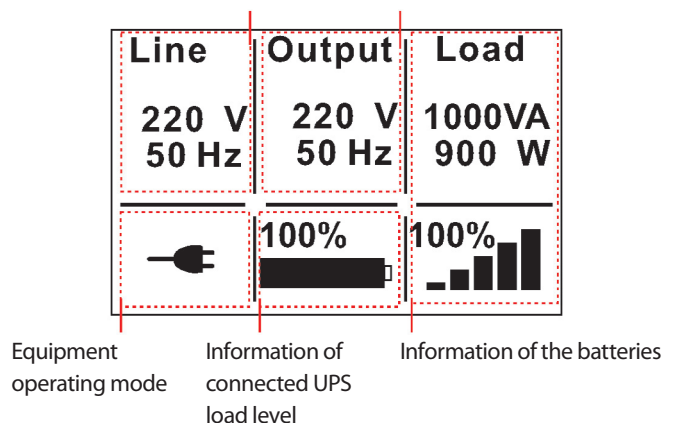

Fig. 21. Main screen of the equipment.
- Immediately after the start up, the LCD panel shows the KESS logo for few seconds and next the main screen by default is displayed, where the status of the equipment is represented (figure 21).